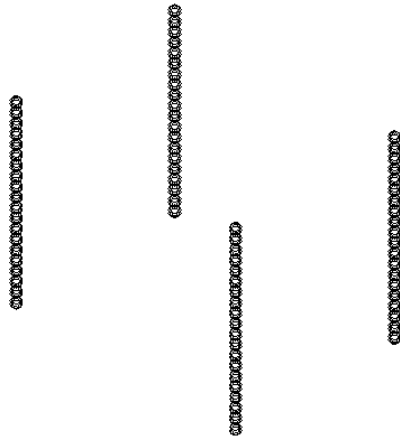

Figure 24-26: The four legs of a table, created by using a 3D rectangular array.
5. Save your drawing. It should look like Figure 24-26.